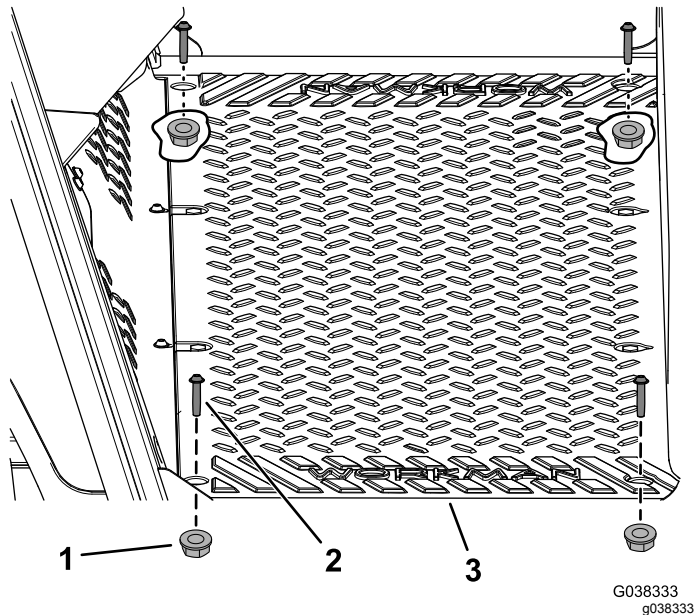

Figure 2
1. Remove the 4 screws (1/4 x 1-1/4 inches) and 4 nuts (1/4 inch) from the floor plate (Figure 2).
- Install the previously removed 4 screws (1/4 x 1-1/4 inches) and 4 nuts (1/4 inch) into the floor plate (Figure 2).